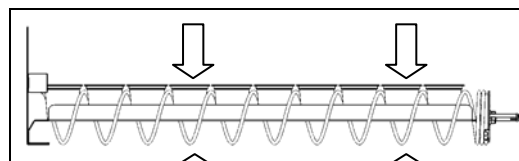

Figure 10
11. From the base of the tray to the top of the K-Cup should all be at the same height (See Fig. 10)